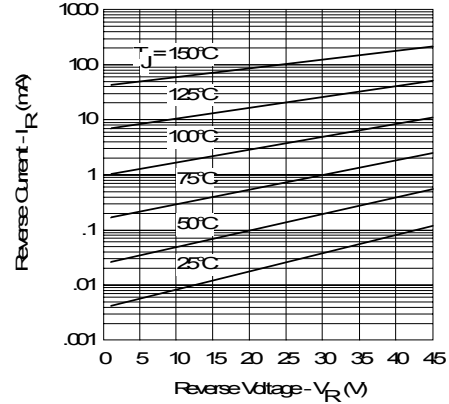

Fig. 2 - Typical Values Of Reverse Current Vs. Reverse Voltage (Per Leg)
| $I_{RM}$ Max. Reverse Leakage Current (Per Leg) * See Fig. 2 (1) | 1.75  | mA               | $T_J = 25^\circ\text{C}$  |